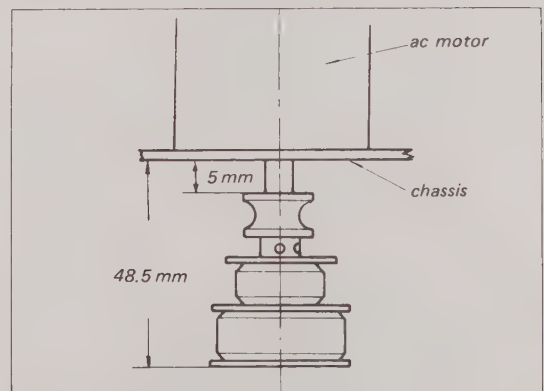

Fig. 5-10. Motor pulley height setting
10. Install the motor pulley and adjust the distance between the pulley and the chassis as shown in Fig. 5-10. Tighten the two set screws.